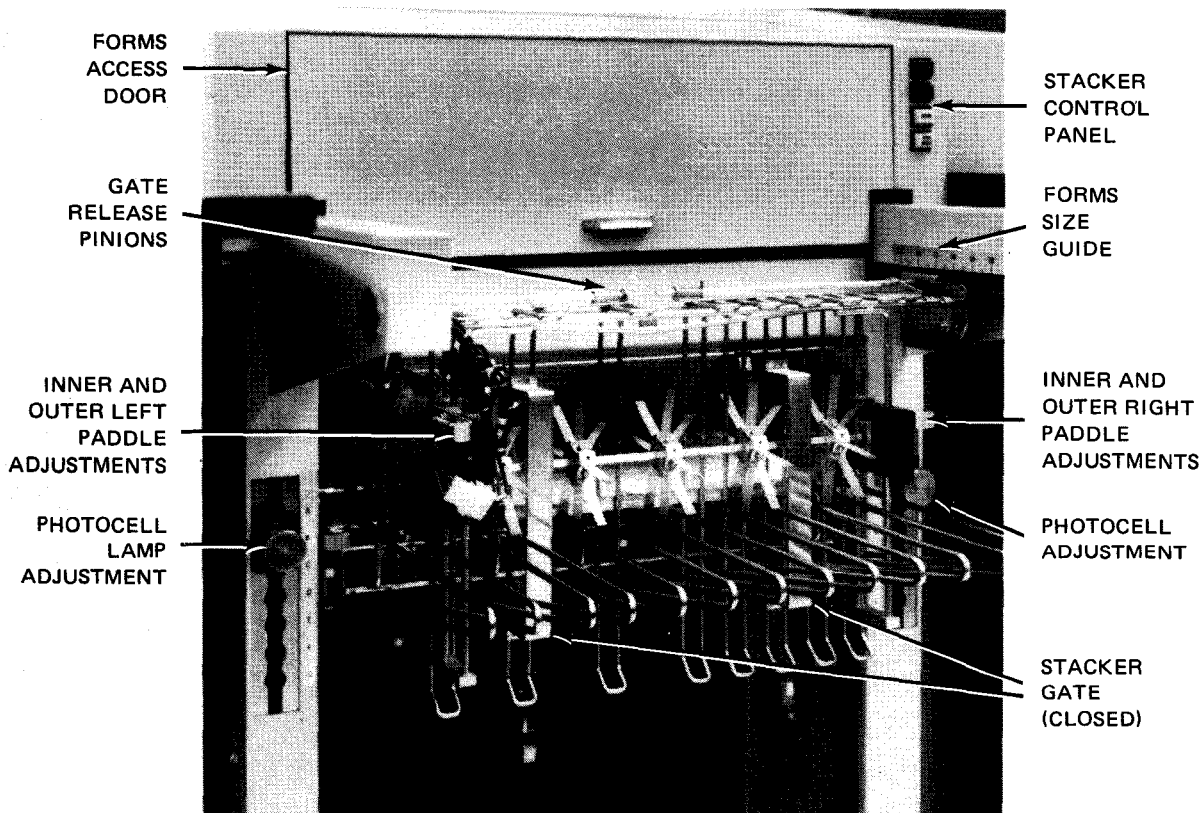

Figure 5—36. Stacker Gate Closed
1. Press **STOP** switch/indicator on stacker control panel and open stacker doors (Figure 5—17).
3. Squeeze the gate release pinions on the forms gate (Figure 5—36) and raise the gate to its extreme open position (Figure 5—37). Release the pinions to lock the gate in its raised position.
4. For forms with a horizontal dimension of 17-25/32 inches (45,16 cm) or greater and a vertical dimension of 11 inches (27,94 cm) or more, place the paper stacker support (Figure 5—37) on the stacker tray so that the forms are centered on the paper stacker support.
7. Move the gate inward or outward by gate top so that front and back of the form gate are set to the form length, as indicated on forms size guide (Figure 5—36).
8. To accommodate form size (positions are marked A through G on the stacker), set the following items (Figure 5—36) to the same position: